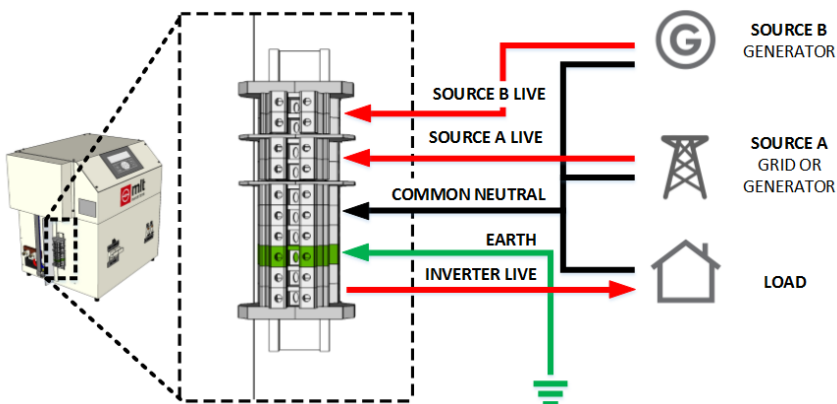

Figure 21: Single Phase AC Input/Output Connections for One Inverter Module
9. Single phase with single inverter module (Refer Figure 21).